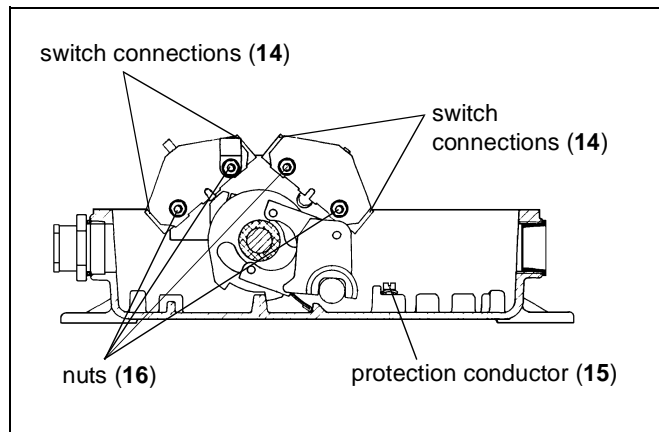

Fig. 7-2: Replacement of switch elements (front view)
2. Disconnect the wires from the connectors (14) of the switch elements (13) and the protection conductor (15) (s. fig. 7-2).
3. Disassemble the switch element (13) by loosening the nuts (16) and pulling off the switch element (13) and screws (18) (s. fig. 7-2 and 7-3).
4. Mount the new switch element (13) by fitting on to the screws (18) and fasten with new nuts (16) (s. fig.